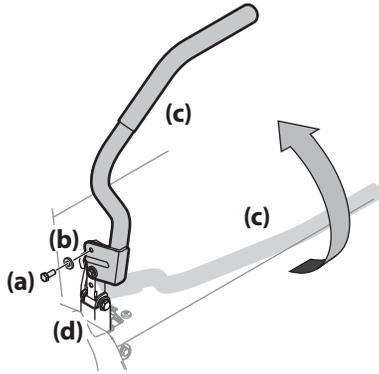

Figure 2-6
1. Remove the hex screws (a) and flat washers (b) from the hardware pack in your manual bag. See Figure 2-6.
2. Lift and swing that control lever (c) upward until the slotted hole in the control lever (c) bracket aligns with one of the holes in the pivot bracket (d). See Figure 2-6.
3. Slide the flat washer (b) onto the hex screw (a). From the outside, insert the hex screw (a) with the flat washer (b) through the control lever bracket (c) and the hole of the pivot bracket (d). See Figure 2-6. Using a $\frac{1}{2}$ " wrench snug the hex screw (a), but do not fully tighten.